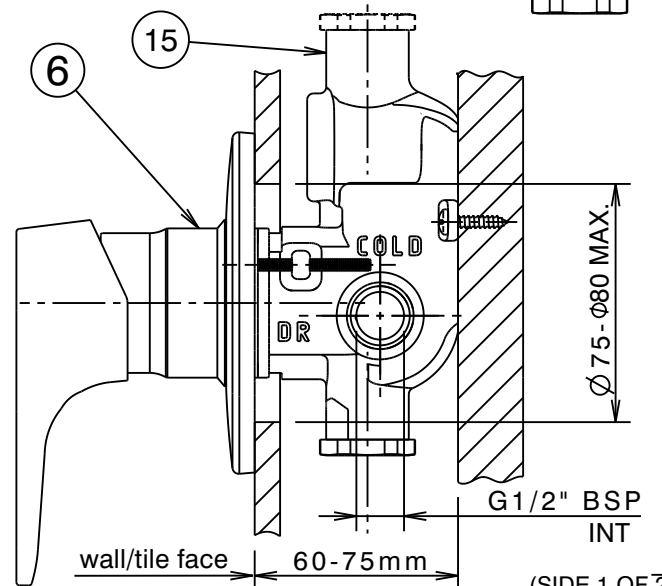

Fig. 1
### Installation (Fig.1 & Fig.2):-
- \* Mixer body (15) must be installed square to the wall/tile face, to ensure cover plate (11) sits flush.
- 2) Carefully prise the black plastic fixing plate (13) from the chrome plated cover plate (11). Fit foam seal (14) into fixing plate (13), as shown (Fig.2). Fit the fixing plate (13) over the chrome sleeve (6) of mixer body (15) (Fig.1), ensuring the screw holes in the fixing plate (13) align with the mating threaded holes in the lugs of mixer body (15). Assemble screws (12) through the holes in the fixing plate (13) then screw into threaded holes in mixer body (15). Tighten each screw (12) equally until the fixing plate (13) abuts the wall/tile face and the foam seal (14) is fully compressed. **Note:** Foam seal (14) will accommodate most wall surfaces, however for extremely uneven walls use silicon sealant to achieve a watertight seal.
- 3) Ensure the 'O' ring is in position in the groove of fixing plate (13) and the body seal (10) is fitted to the cover plate (11), then carefully slide the cover plate (11) onto the chrome sleeve (6) of mixer body (15) taking care not to damage the decorative finish. Push the cover plate over the 'O' Ring of fixing plate (13) until the cover plate abuts the wall/tile face.
- 4) Locate and hold the handle (4) onto the cartridge (9), then tighten grub screw (3) using 2.5mm allen key (2). Fit plug (1), taking care that the red indication is to the left.